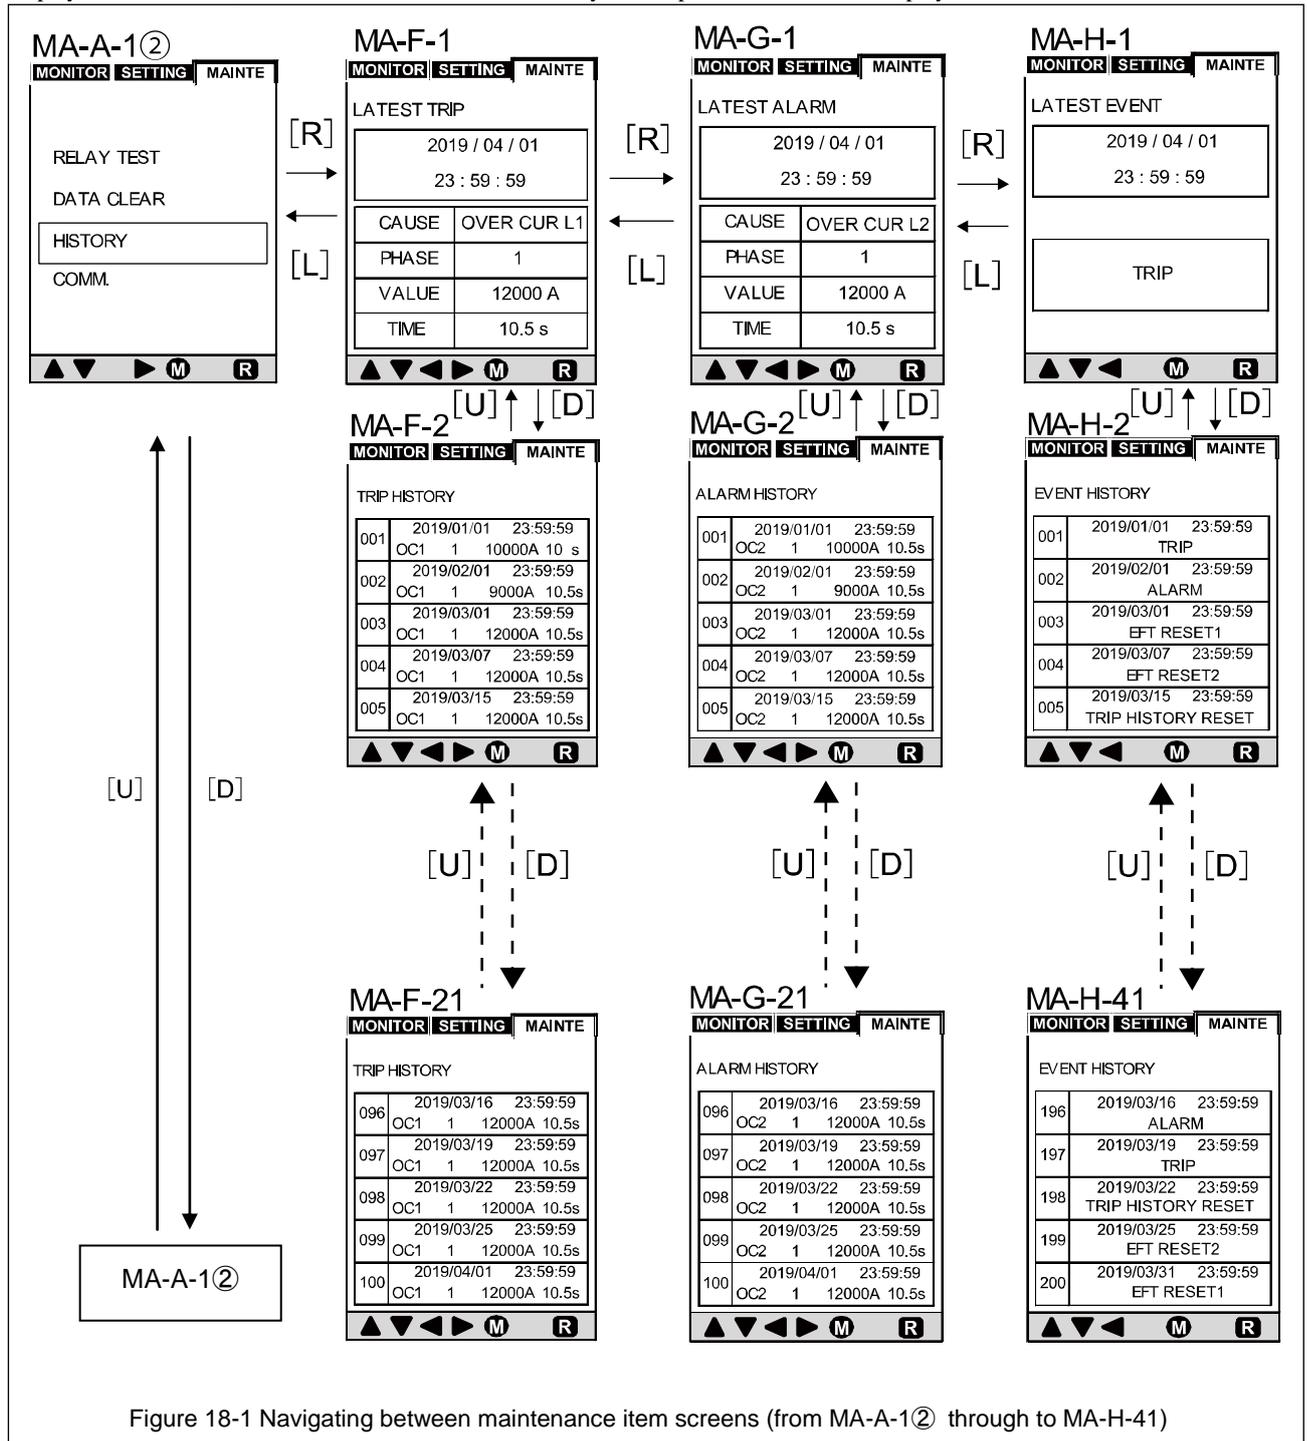

Figure 18-1 Navigating between maintenance item screens (from MA-A-1② through to MA-H-41)
Figure 18-1 shows how to navigate between maintenance item screens (from MA-A-1② to MA-H-41). For items that are actually displayed on the screen, refer to Table 13-3 and "7-8. History and Trip/Alarm Activation Display Screens".